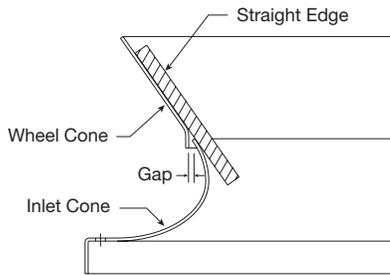

Figure 1
1. Rotate the fan wheel by hand and assure no parts are rubbing. The wheel should rotate freely and be aligned as shown in Figure 1. Wheel position is preset and the unit is tested at the factory.
**Alignment** - If necessary, adjust wheel position by loosening the wheel hub (see Tapered Bushing Installation and Removal on page 10) from the fan shaft so that a straight edge held tight to the wheel cone just touches the inlet cone. Refer to Figure 1.
4. Adjust the axial location of the wheel in the fan relative to the inlet cone (venturi) as shown in Figure 1, page 9. Then tighten the socket head cap screws an eighth turn at a time in an alternating fashion and to a torque of 10 ft·lbs for QT bushings and 9 ft·lbs for SD bushings.